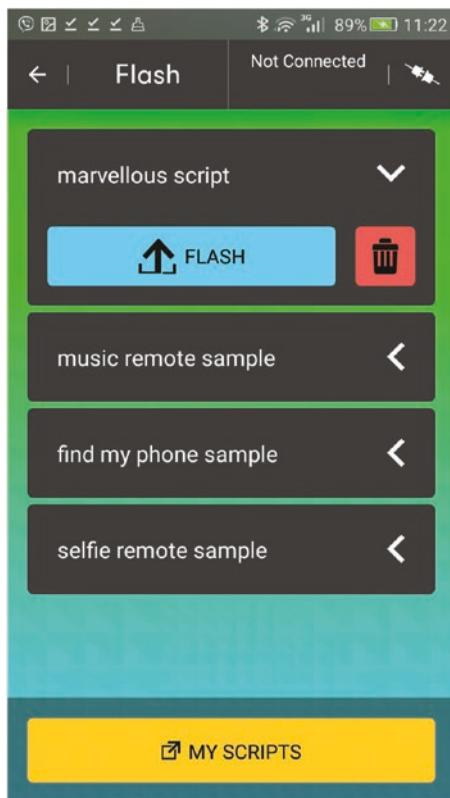

Figure B-14. List of .hex files for flashing
- Now go to the main page of the micro:bit app and tap the Flash button. The app will show all the downloaded .hex files as a list, so you can flash them to the micro:bit by tapping the FLASH button associated with the file name (i.e., `marvelous_script`) (see Figure B-14).